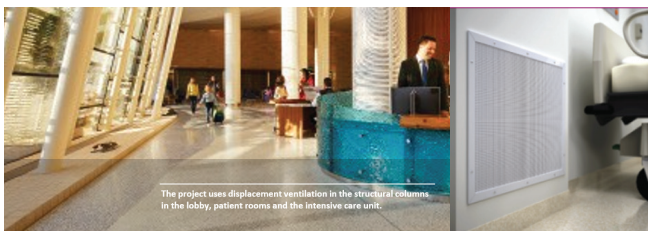

Fig. 14 Project uses displacement ventilation in the structural columns in lift lobby, patient rooms and the Intensive Care Units
- Patient rooms, using low sidewall air supply combined with radiant heating (Fig 14)